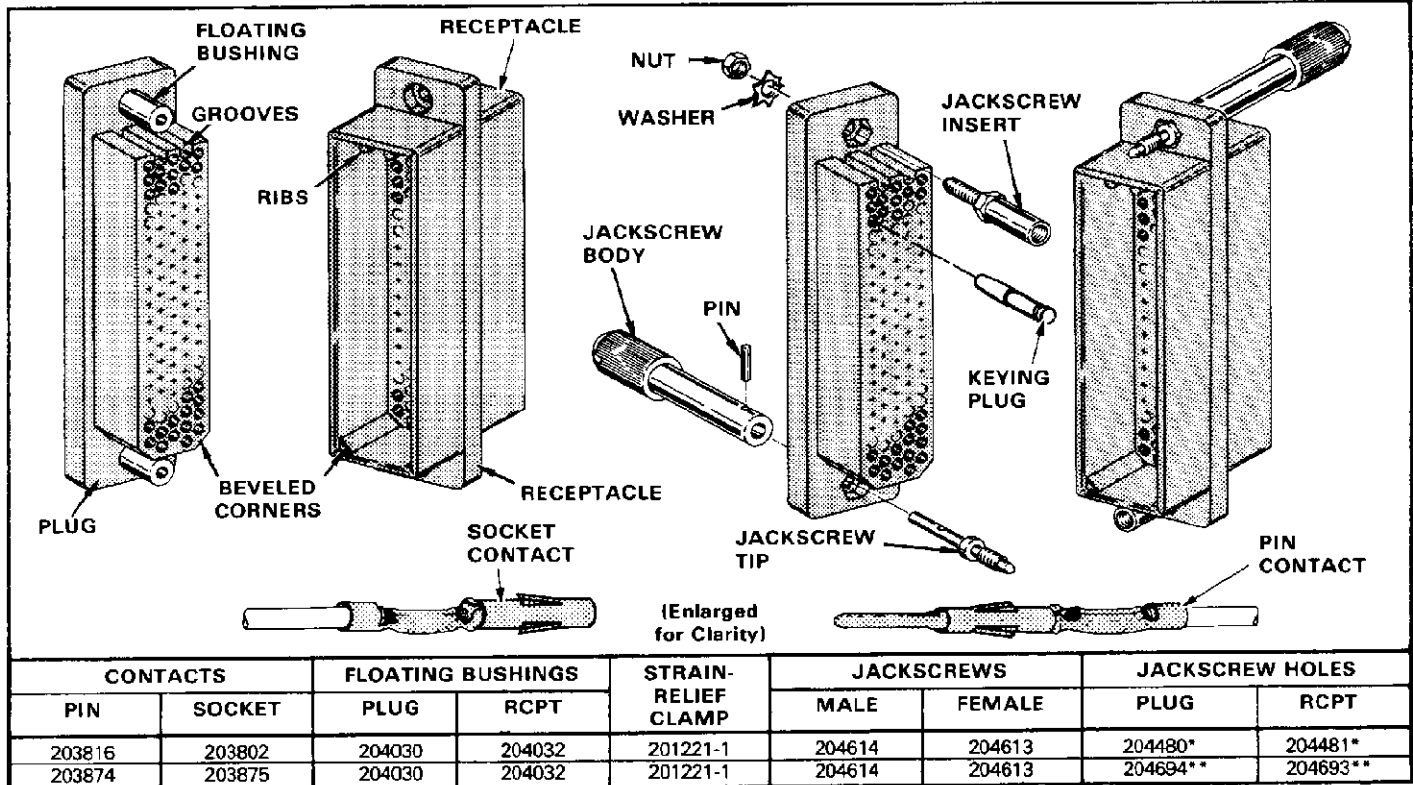

Fig. 1
The applicable Type XI contacts, jack screws, floating bushings, and strain-relief assembly are listed in Figure 1. Read these instructions thoroughly before assembling the connectors.
Floating bushings are designed to compensate for misalignment between mounted connectors. The bushings are mounted in the plug connector as shown in Figure 1.
9. KEYING PLUGS (Figure 1)